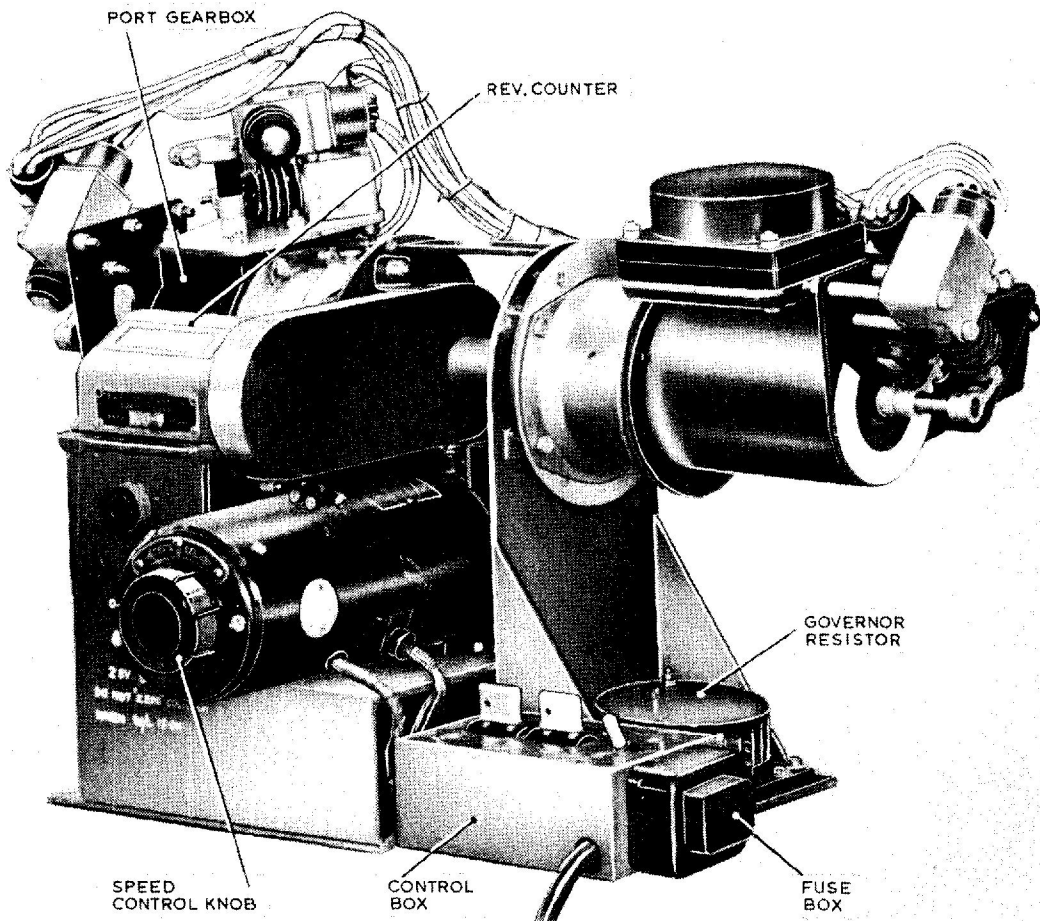

Fig.2. Gearbox assembly with flap position gearbox attached
and starboard indicator gearboxes under test, are attached to the output shaft via a splined coupling, (fig.2).
3. The speed of the motor can be varied between 20 and 65 rev/min. by adjustment of the speed control knob, which is mounted on the commutator end of the machine, (fig.2).
7. The flap position gearboxes under test are attached to the test set as shown in fig.2, the starboard gearbox on the right and the port gearbox on the left. All the connecting leads from the gearboxes are connected to the Snap Blocks of appropriate identification.